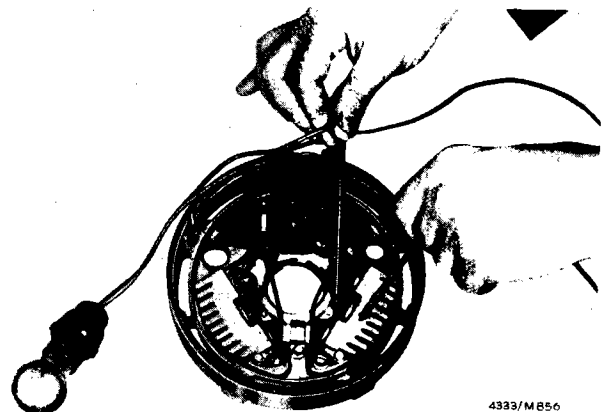

Fig. 37 Diode test using lamp
1. If the bulb lights in one direction only, the rectifier diode is not faulty (Fig. 37).